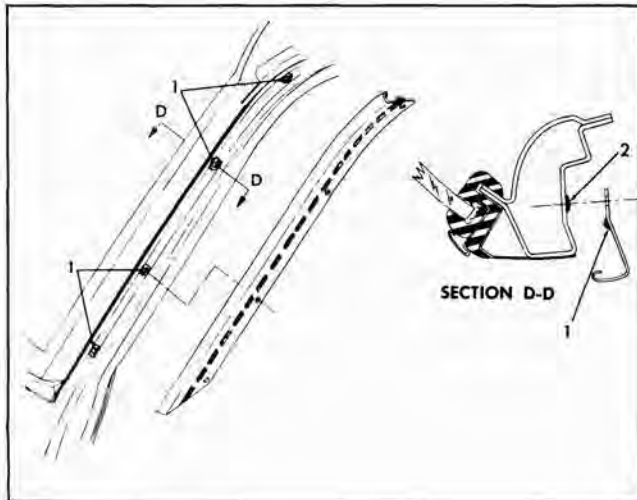

Fig. 12-19 Windshield Pillar Drip Moldings
2. To install, apply medium-bodied sealer to screw attaching holes as indicated by #1 and to drip molding as indicated by #2 in (Fig. 12-19) and reverse removal procedure.